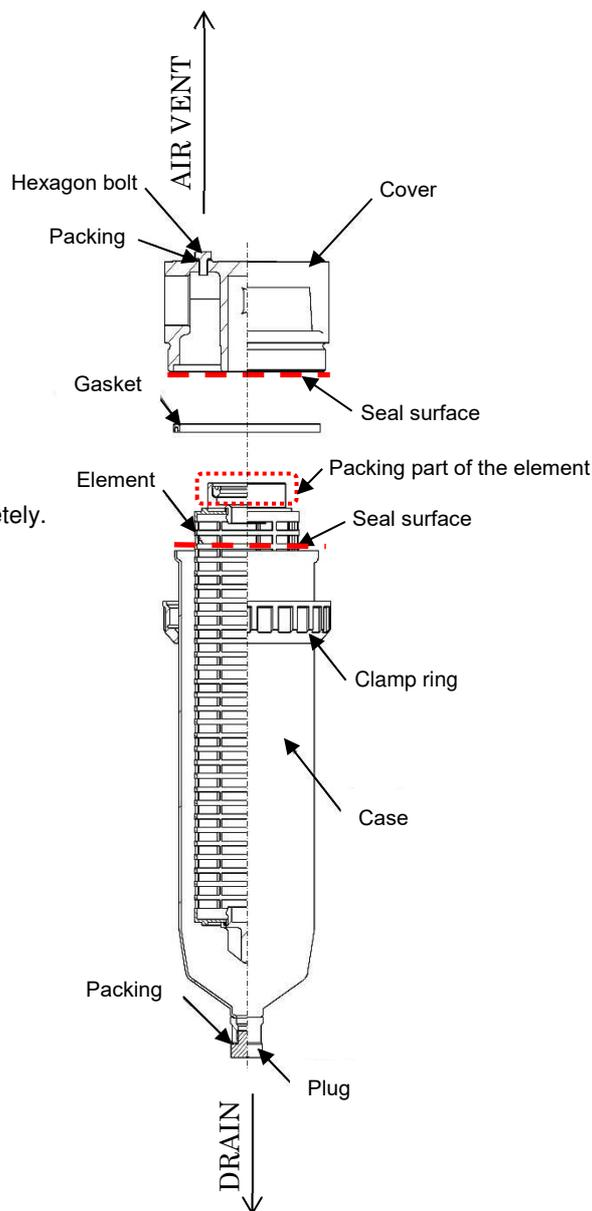

Fig.2 Structural drawing
[1] Removal of the element.(See Fig.2)
[2]Mounting of element. (See Fig.2)
- (4) Set the clamp ring to the bowl as in Fig. 2.
- (5) Lightly align the seal part of the element with the sheet of the cover.
- (6) After screwing the clamp ring into the cover by hand, tighten it with a belt wrench.
- (7) Set the seals and plug of the drain part, and tighten the hexagon bolt of the air vent.